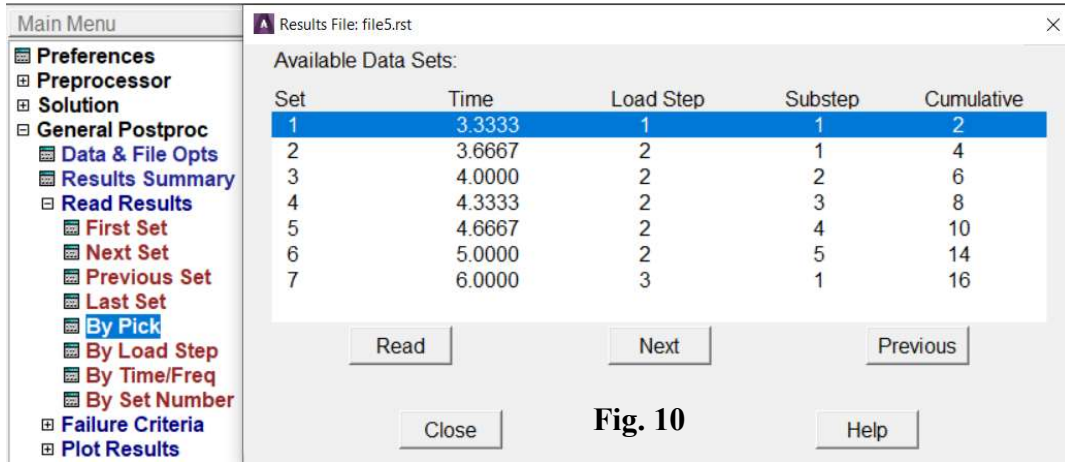

Fig. 10
10. Read the results (Main Menu> General Postproc> Read Results> First Step) (Fig. 10)